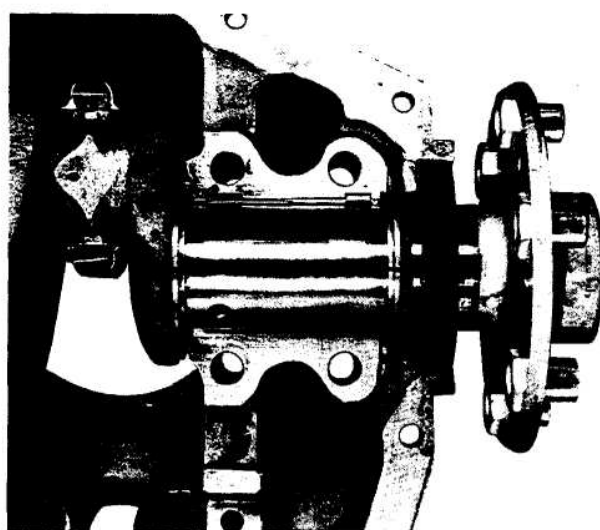

Figure 33. Installing Dowel Type Thrust Washers and Split Oil Seal.
- j. Spread a generous coat of light engine oil or corrosion-preventive oil mixture on all crankshaft main journals. Lift the crankshaft and connecting rod assembly by the No's 1 and 3 rods, and place it carefully in the 2, 4 crankcase side bearings. If it is a flange type crankshaft turn the oil seal, before seating the shaft front end, so that the split will be within the 2, 4 side recess and 20° from the parting surface toward the top of the case. The seal must be against the shoulder of the recess. (See Figure 33.)